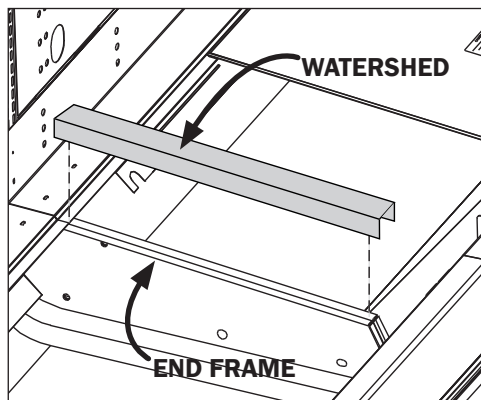

Fig. 5 Sealing the pipe chase
6. Apply case-to-case watershed (supplied) over the end frame seam (Fig. 5). The watershed prevents water from settling in the case joint.